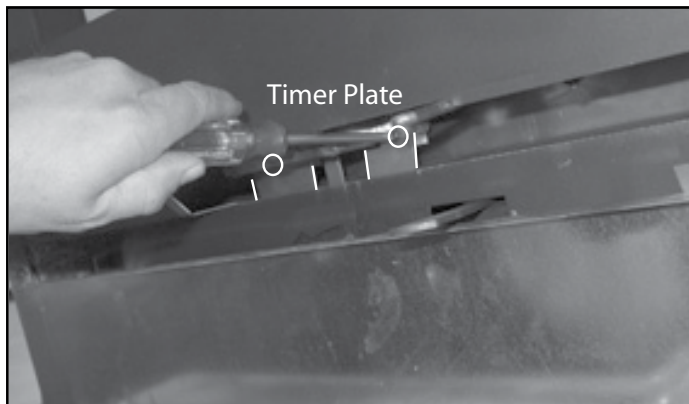
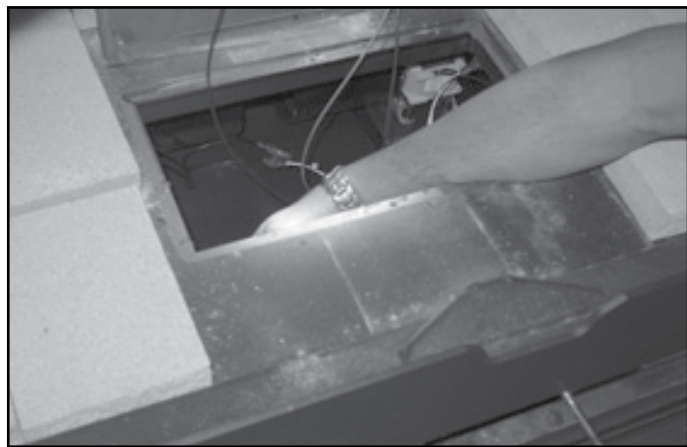
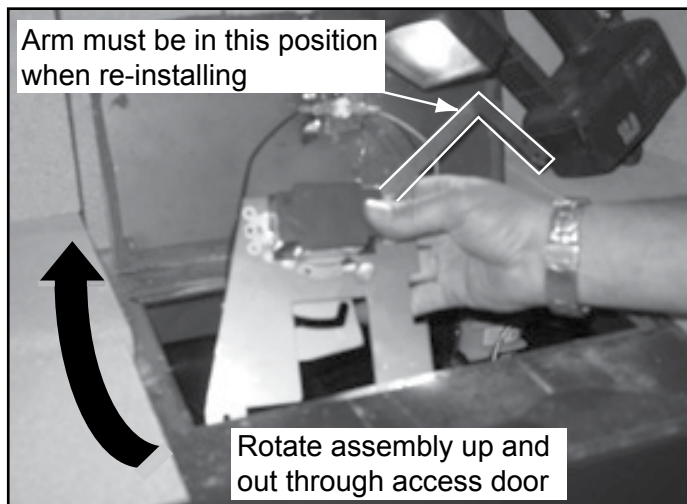

Figure 4.16 Remove Screws from Timer Mounting Plate
Figure 4.17 Hand in Access Door
Figure 4.18 Removing Timer Assembly
- Remove two screws from timer mounting plate (Figure 4.16). Place your hand into the access door (Figure 4.17) in the floor of the fireplace. Let the timer assembly and plate drop down and rotate it up through the access door. You will be looking at the back side of the assembly. See Figure 4.18.
- Insert the new timer assembly into the access door with the back side towards you. Please note the correct position of the linkage lower arm in Figure 4.18.